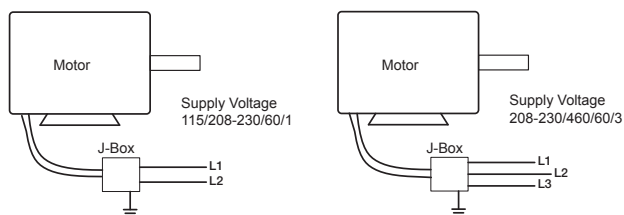

Figure 10
2. Wire motor for desired voltage per wiring diagram on motor. Refer to Figure 10 for connection wiring diagram.